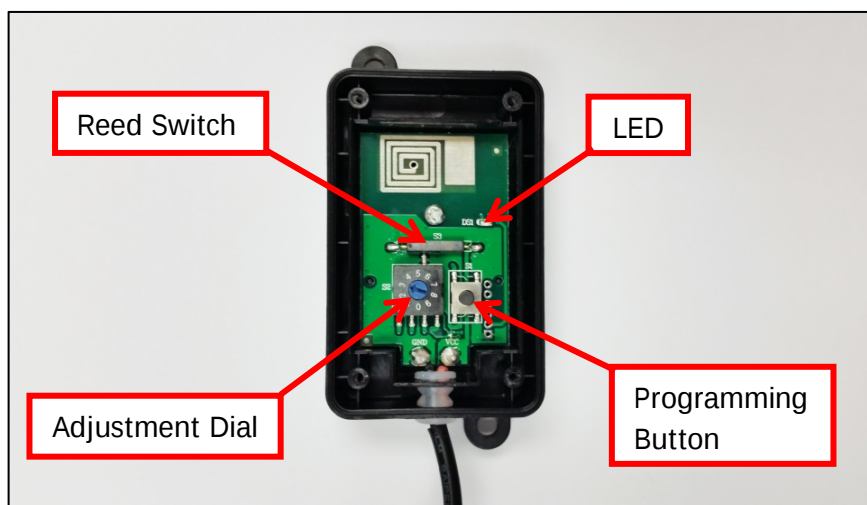

Fig.4
- a. Set the Motion sensor Adjustment Dial to 0. (See Fig.4).
- d. Press the programming button on the GC779G Motion sensor ONCE (See Fig.4). The 98GC74 will bleep several times to indicate that the program has been accepted.